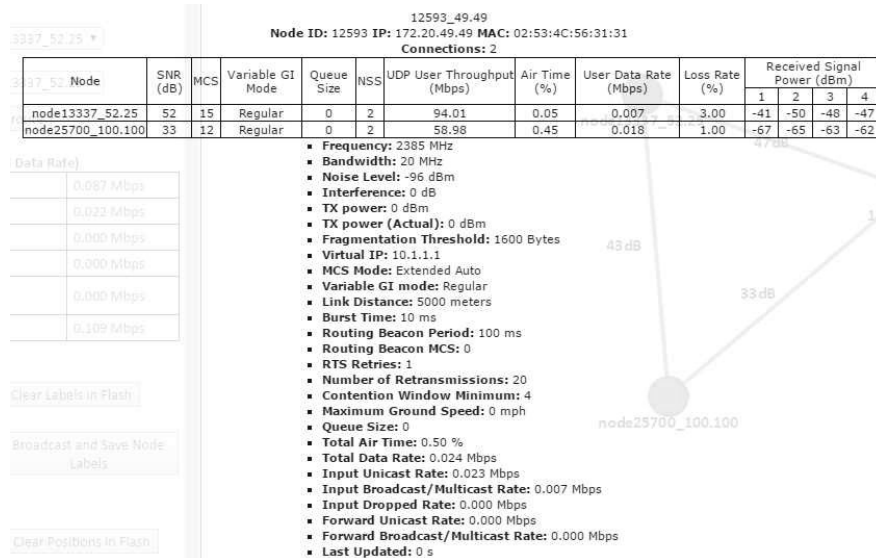

Figure 59 Individual Node Characteristics
- **Individual Node Characteristics** – By simply rolling the mouse over any node in the network, users can view key operating characteristics of the node. **Figure 59** shows an example of this for 'node12593'. The characteristics shown are: